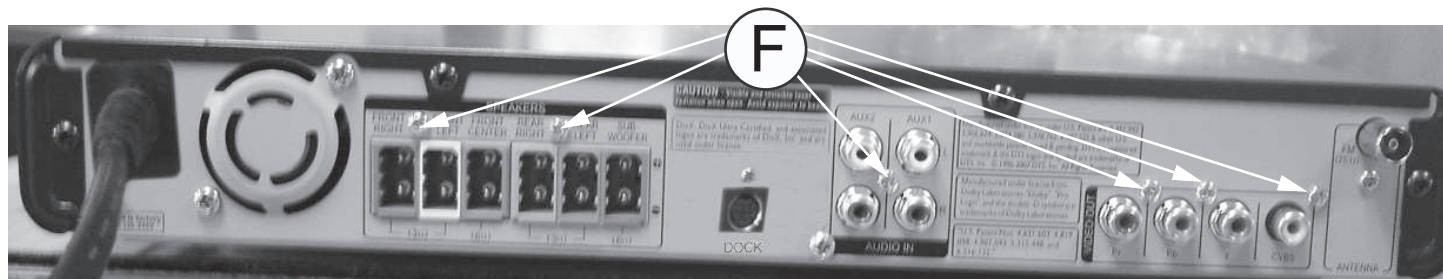

Figure 10
- 2) Loosen 6 screws "F" at the back panel as shown in figure 10.